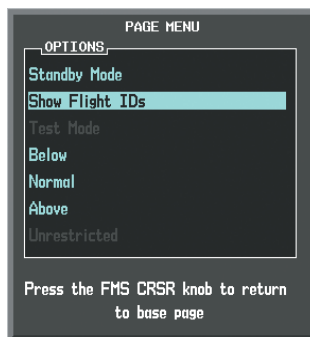

Figure 6-168 Traffic Map Page Menu
- 2) Turn the small **FMS** Knob to select 'Show Flight IDs' or 'Hide Flight IDs' (choice dependent on current state) (Figure 6-168).